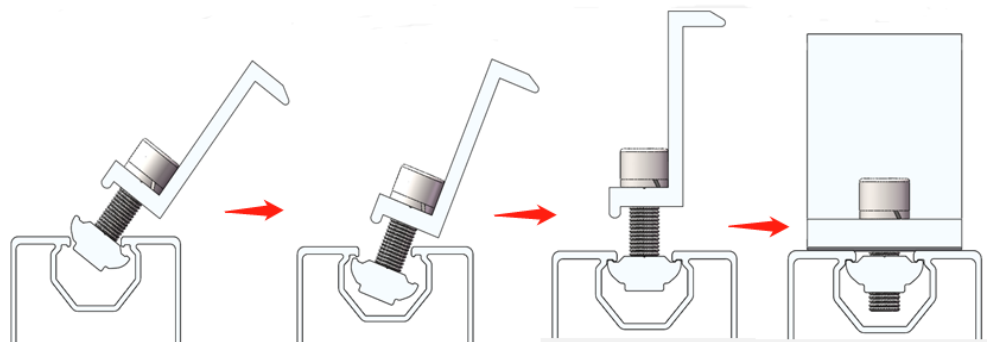

Figure 14
4.5.1 Tilt the Inter Clamps with W-module into the channel of the Rail as shown in Figure 14.